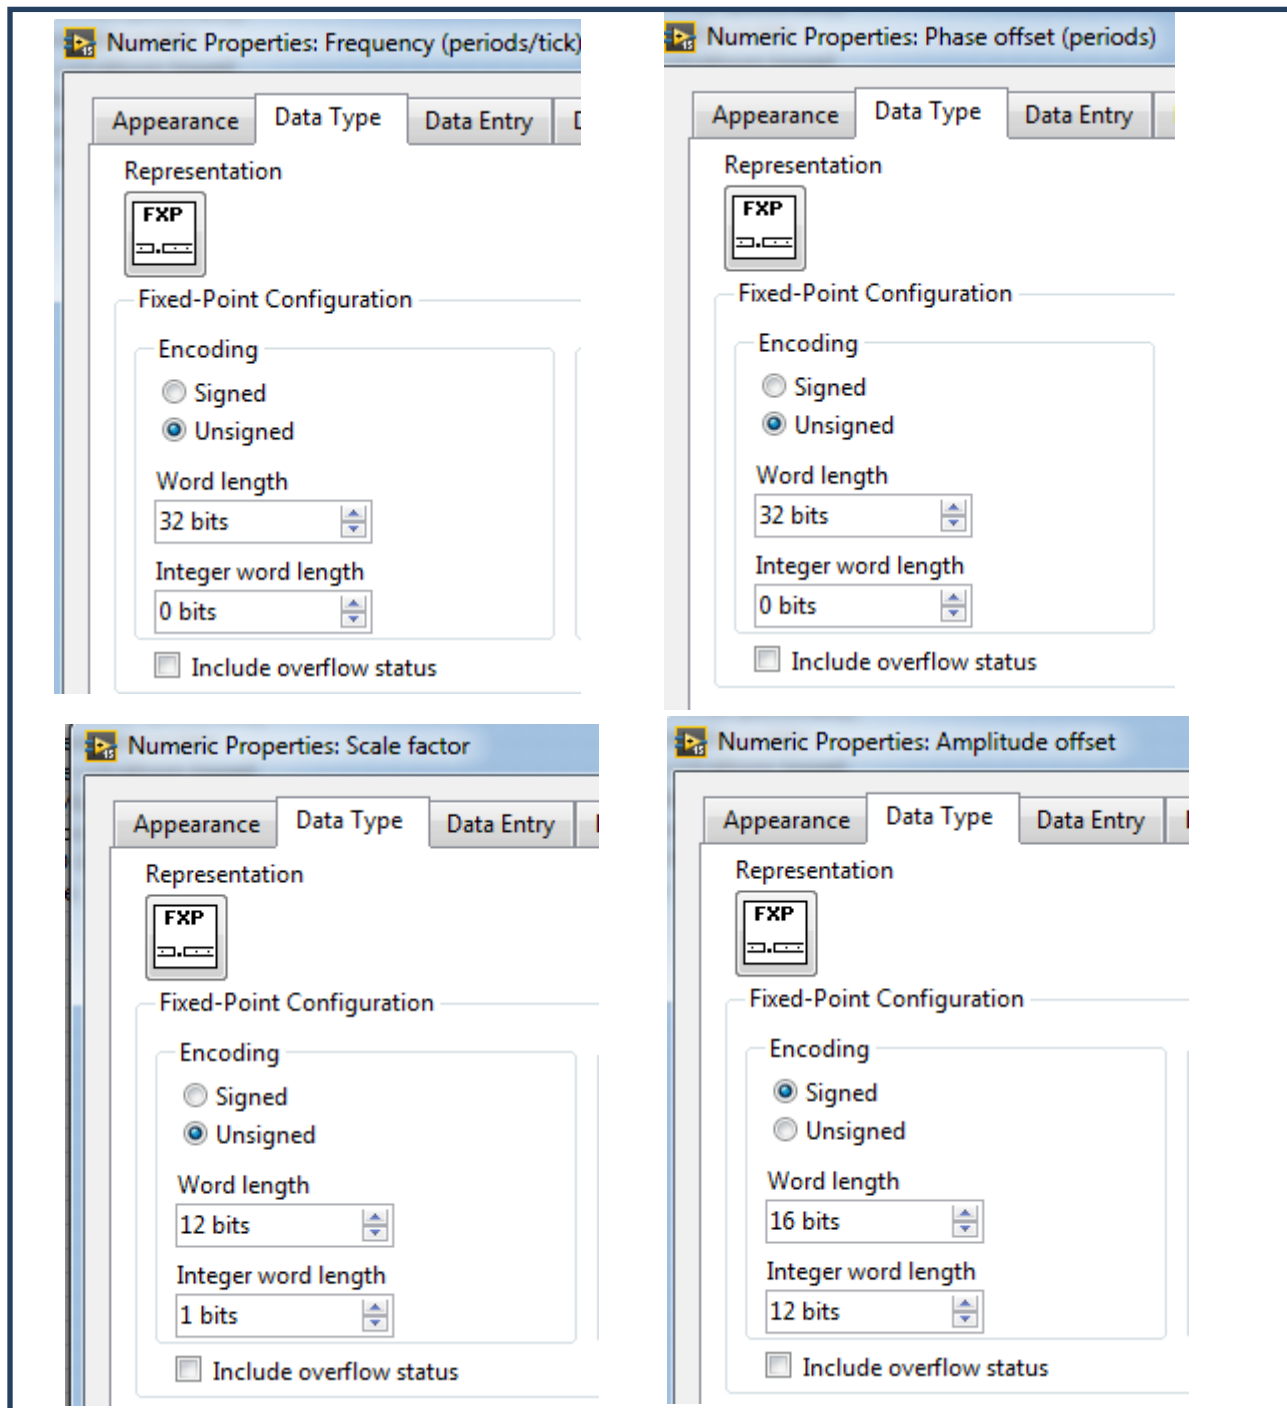

Fig. 5b. Data type of fixed point controls.
- Adjust the data type of these 4 fixed point controls as shown in Fig. 5b by right clicking on each control in the front panel and selecting **Properties → Data Type**.